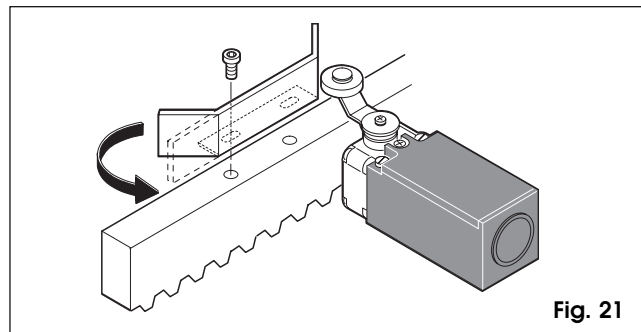

Fig. 21
The 884 operator has an electro-mechanical limit-switch with roller and lever, which controls gate movement to stop when a profiled plate, secured on the top of the rack, activates the lever until the microswitch is tripped (fig 21).
Note: The plates are designed for securing with screws (fig 21) if necessary.
- a. The plate must activate the limit switch on the profiled part as shown in figure 21
- b. To prevent the plate from going beyond the limit-switch (long braking), we advise you to straighten the final profiled part as shown in fig 21.